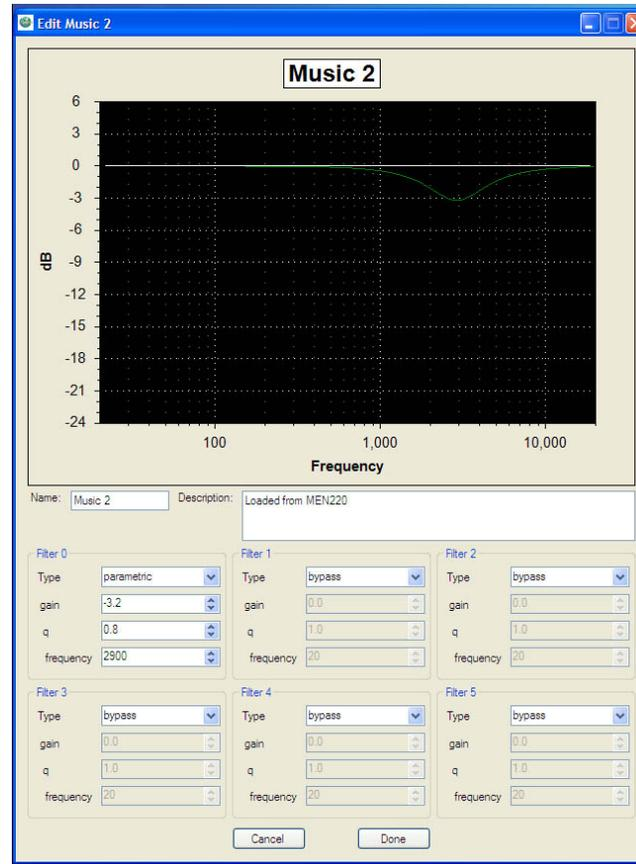

Figure 4
1. Click on the EDIT Push-button and a new Window will open. Refer to figure 4.